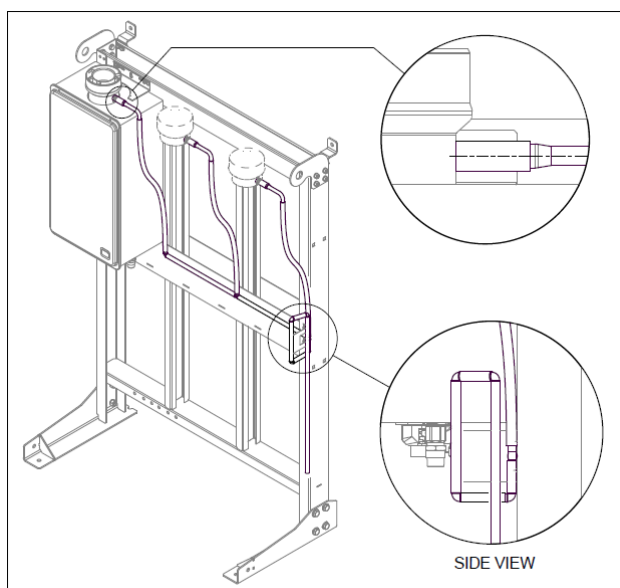

Figure 18- Condensate Trap and Condensate Drain Line
The Condensate Trap must be filled with water prior to the operation of the water heater. Refer to Figure 18- Condensate Trap and Condensate Drain Line on page 43.
2. Undo the strap holding the aluminium tube and fit the end of the short silicone tube to the spigot of the water heater flue outlet as shown in Figure 18- Condensate Trap and Condensate Drain Line.
7. Direct the end of the condensate trap tube to appropriate discharge point. The end of the condensate trap tube may be cut to suit. Two (2) loose plastic elbows (per trap) are provided with the system for convenience.